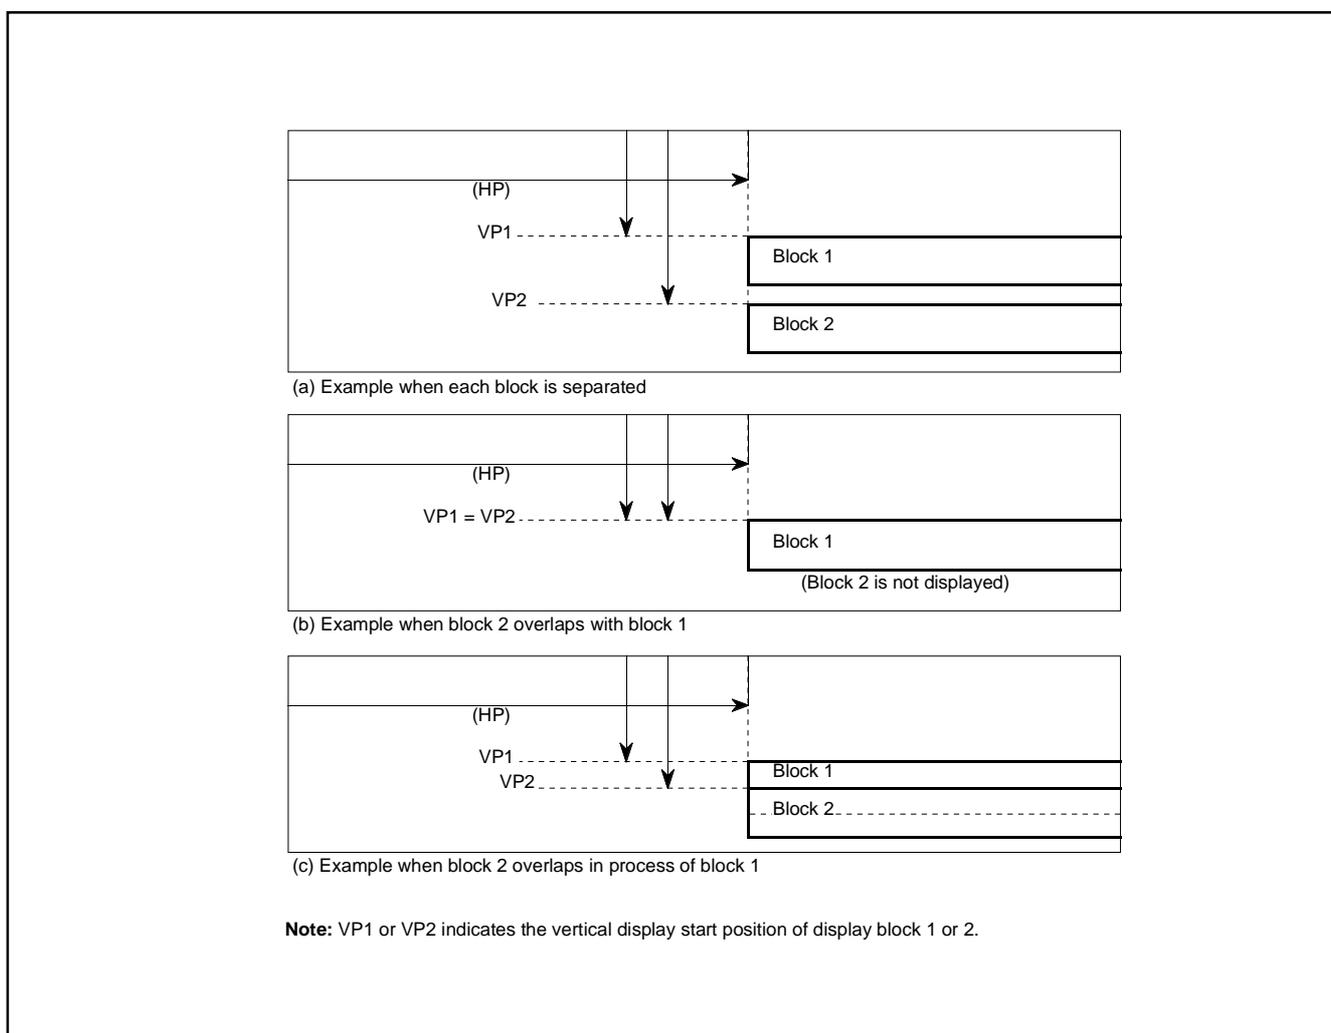

Fig. 8.11.5 Display Position
- When the display position of block 1 is overlapped with that of block 2 (Figure 8.11.5 (b)), the block 1 is displayed on the front.
- When another block display position appears while one block is displayed (Figure 8.11.5 (c)), the block with a larger set value as the vertical display start position is displayed.